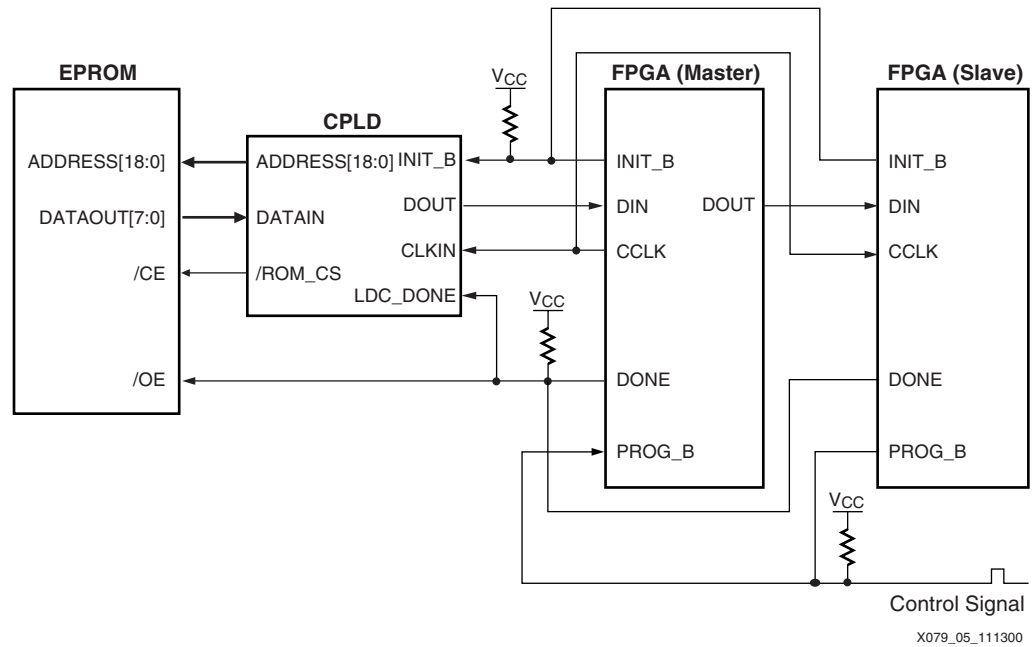

Figure 3-5: Configuring Virtex-II Using a CPLD and Parallel PROM
- XAPP079: *Configuring Xilinx FPGAs Using an XC9500 CPLD and Parallel PROM* (www.xilinx.com/apps/xappsumm.htm#xapp079) describes an architecture that configures a chain of Virtex-II devices using Master-Serial mode. See Figure 3-5 for an example of FPGA configuration using a CPLD and a parallel PROM.